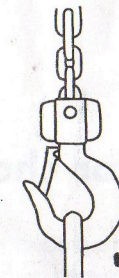
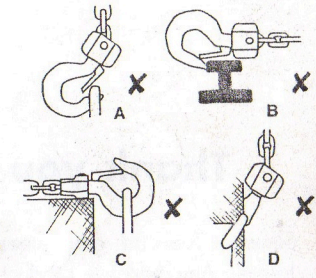

Figure 1
Figure 2
- Center load on bottom hook correctly (Fig 1). Incorrect loading is dangerous to the operator, the lever hoist and the load. Never load the hook in front of the safety latch (Fig 2 A). Never load the hook tip (Fig 2 B). Never load the hook off the center line (Fig 2 C). Never load the hook sideways (Fig 2 D).